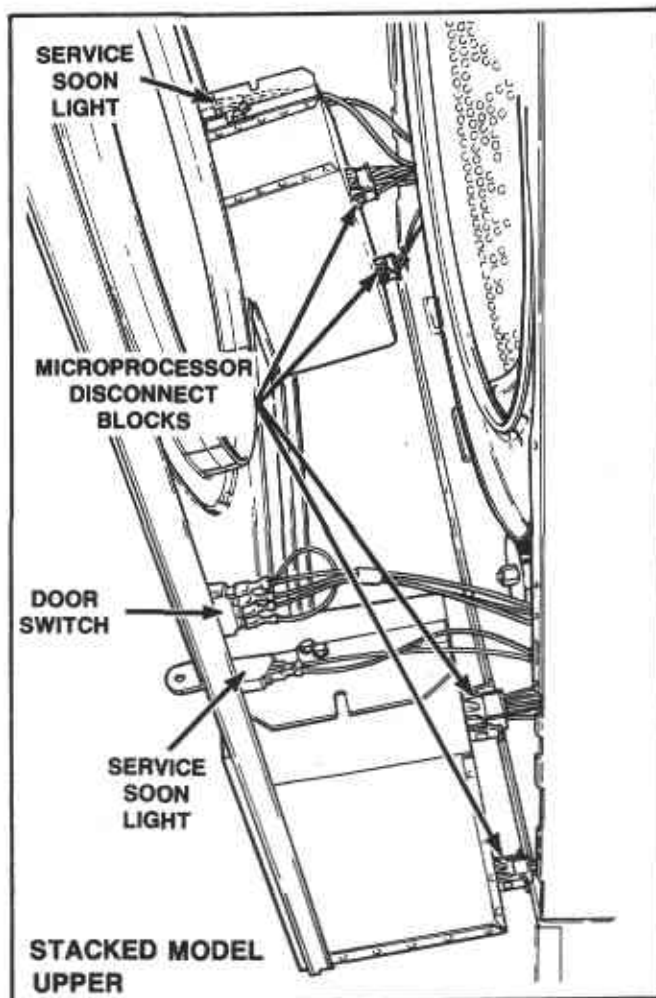

Figure 5
- e. While supporting front panel, tip the top forward slightly and lift up and out far enough to disconnect door switch wires, *Figure 5*.
#### Stacked Model – Upper (Figure 5)